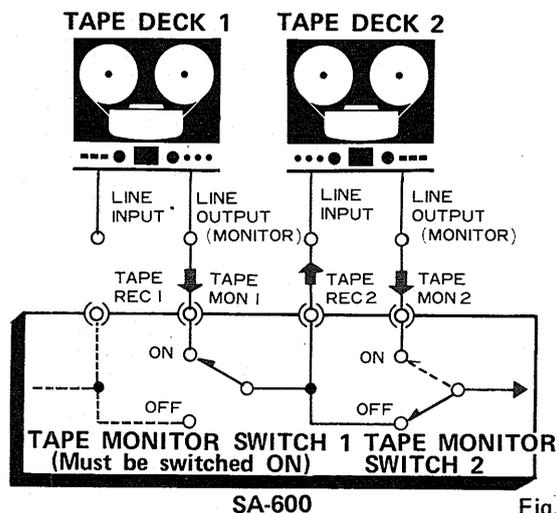

Fig. 5
1. Connect two tape decks as shown in Fig. 5.